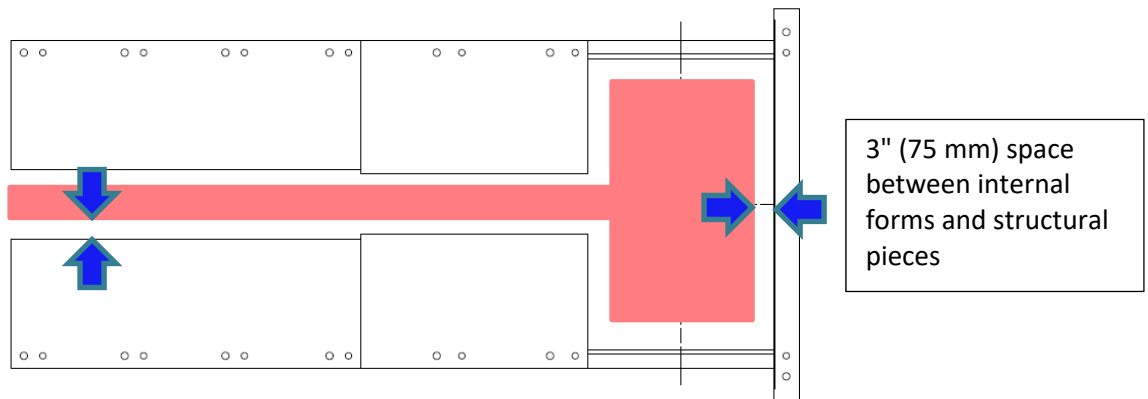

Figure 1: Typical layout of an Arrangement 8 fan with a base frame support
1. Before the equipment is set into place: Using field measurements or a certified drawing, cut hard Styrofoam insulation or equivalent as inside forms to keep the grout from flowing into the voids inside the supports. The total thickness of layers of insulation must be as thick as the distance from the concrete to the bottom of the support flange. The forms must allow for 3" (75 mm) of space on each side between the form and the nearest support flange edge along with internal supports and drain pipes or connections. Caution should be used that the no part of the equipment support structure comes in contact with or sits on top of the insulation form. Refer to Figure 1.